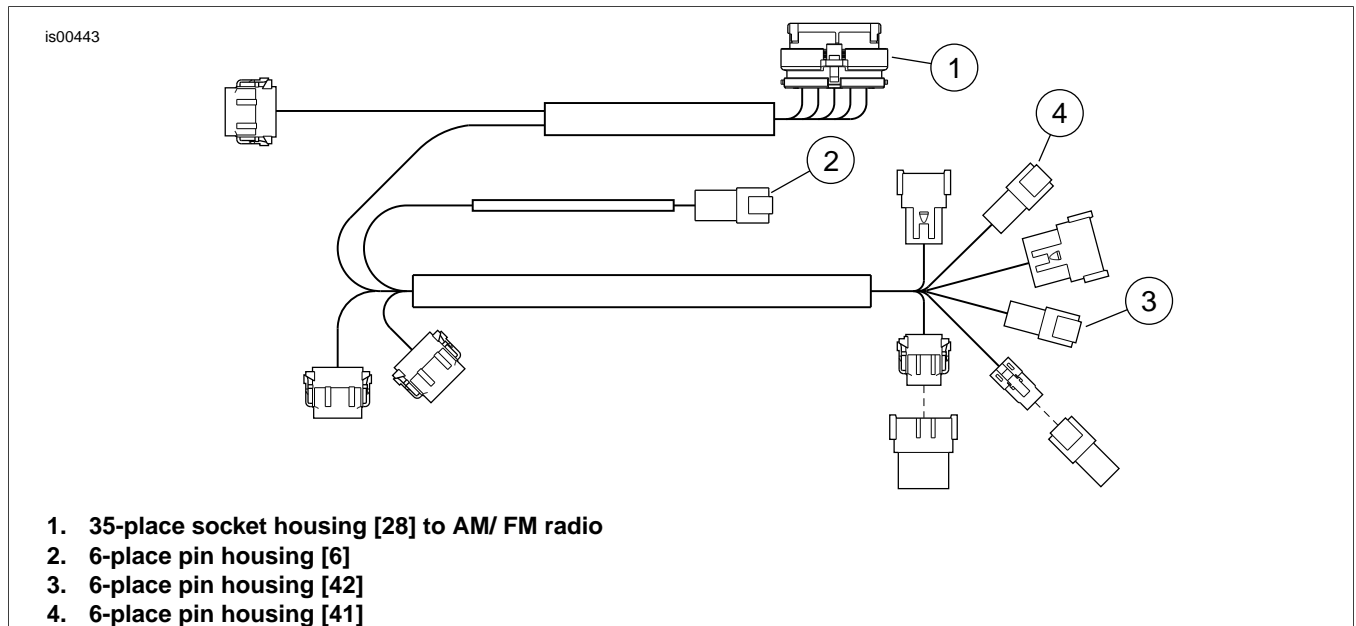

Figure 2. Non-Ultra Overlay Harness
20. If socket housing [6B] is not already connected to an overlay harness, obtain an overlay harness (Part Number 70169-06, purchased separately). See Figure 2. Plug the 6-way pin housing [6A] on the overlay harness into socket housing [6B]. Plug the 35-way radio socket housing [28] into the back of the radio.